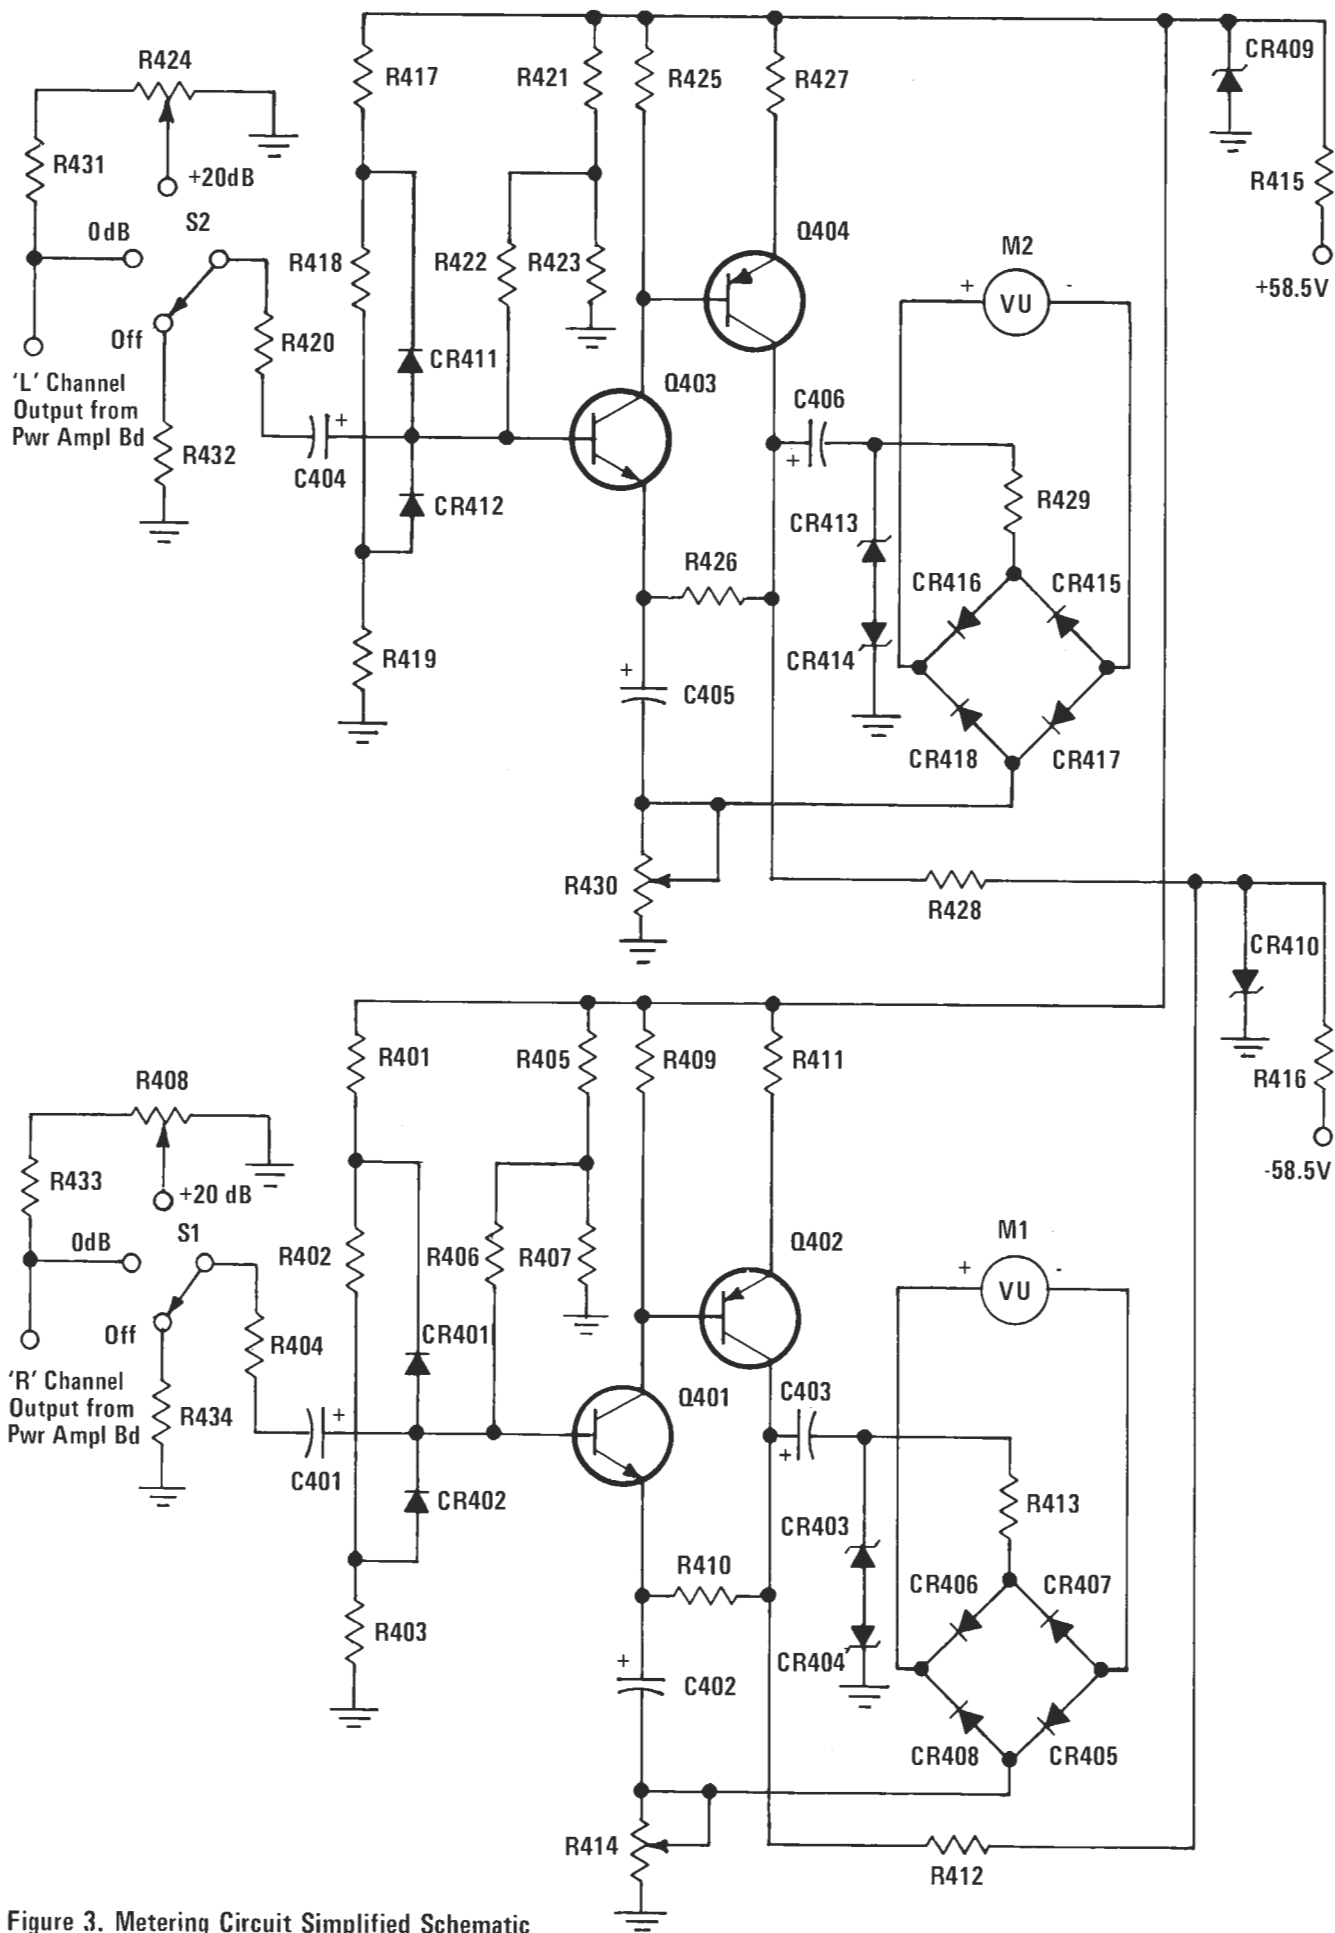
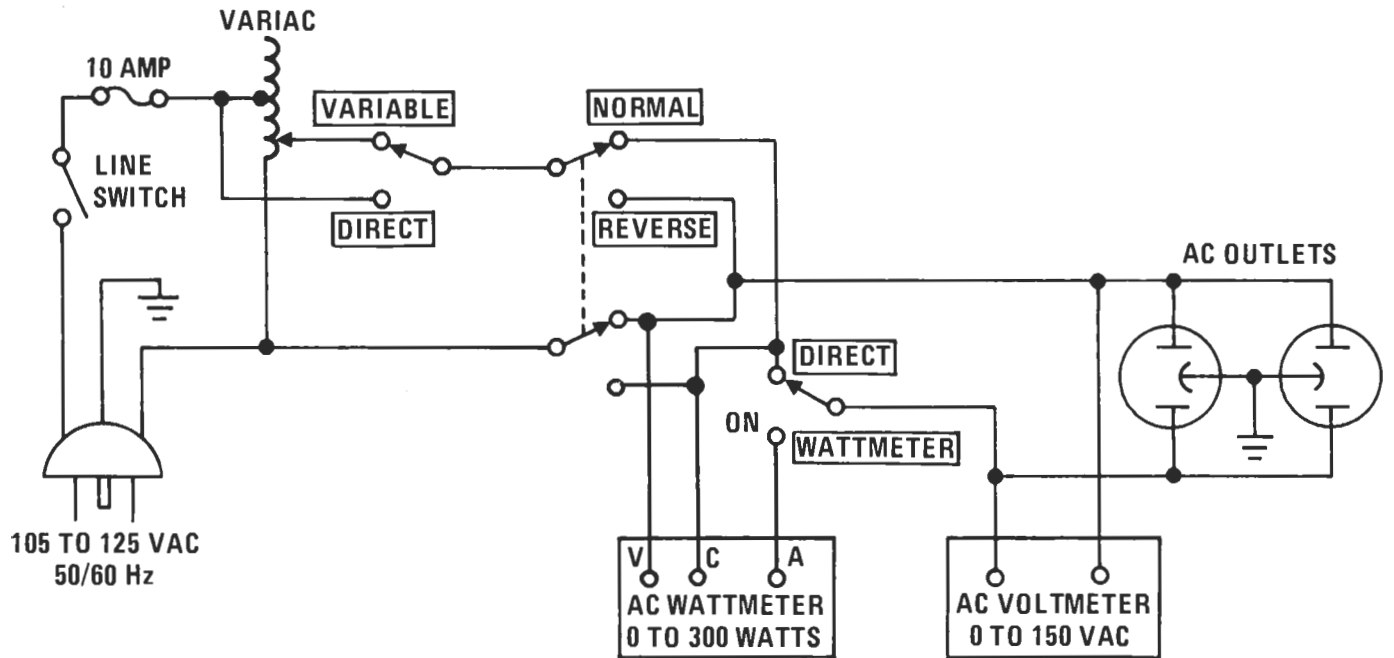
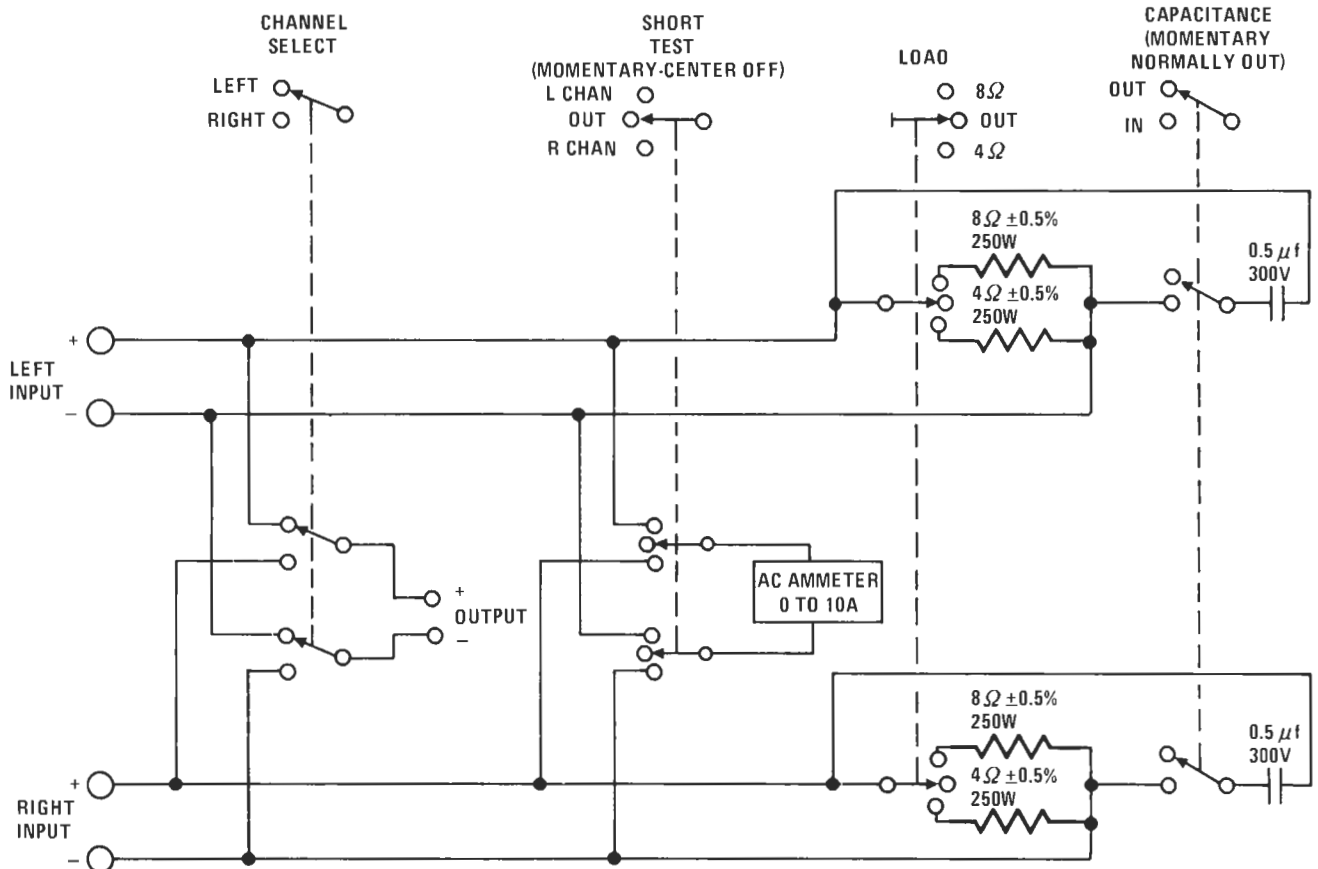

Figure 3. Metering Circuit Simplified Schematic
Figure 4. AC Power Control Box Simplified Schematic
Figure 5. Amplifier Output Load Box Simplified Schematic
- Replace Figure 3. (Metering Circuit Simplified Diagram) with Figure 3 contained herein.
- Page 7— In Table 1, for "AC Power Control Box," replace "Fabricate in accordance with Figure 3." with "Fabricate in accordance with Figure 4.;" for "Amplifier Output Load Box," replace "Fabricate in accordance with Figure 4." with "Fabricate in accordance with Figure 5."
Page 10— Replace Figure 4. (AC Power Control Box Simplified Schematic) with Figure 4. contained herein.
— Replace Figure 5. (Amplifier Output Load Box Simplified Schematic) with Figure 5. contained herein.